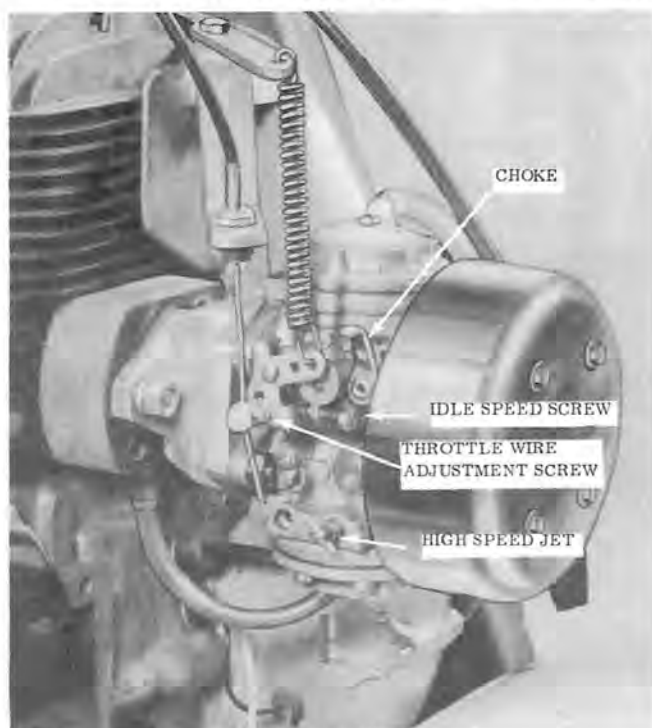
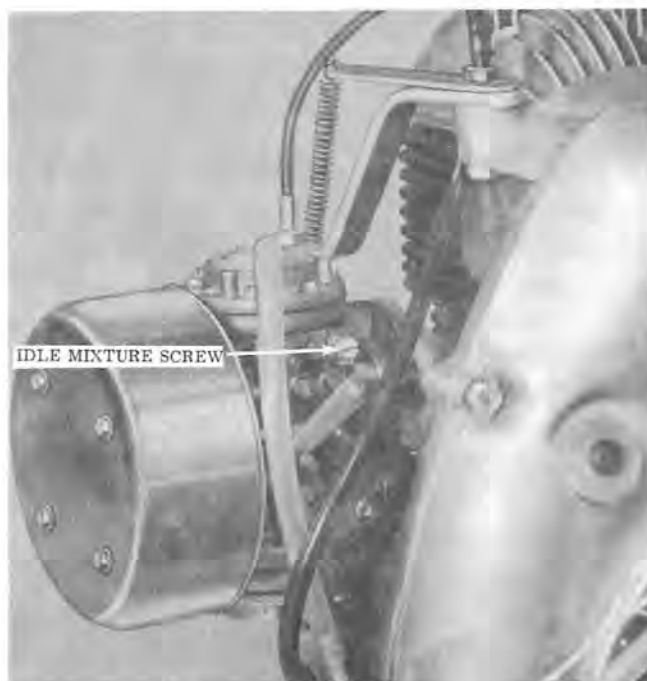

Figure 28
Figure 29
IT IS IMPORTANT NOT TO FORCE ADJUSTMENTS INTO SEATS. The dual carburetors used are Tillotson Model HL-209 and HL-210 carburetors. For best results the engine should be warm when final carburetor adjustments are made. Figure 28 shows the left side of the dual carburetors, and Figure 29 shows the right side.
2. **STARTING A WARM ENGINE** It should be started with the choke open as shown in Figure 28.
3. **TO ADJUST CARBURETOR** - Turn in the high speed jet all the way, (do not force), then open $1\frac{1}{4}$ turns as shown in Figure 28. Turn in the idle mixture screw all the way, (do not force). Open one full turn, as shown in Figure 29. This adjustment controls the mixture at idling speeds. Lean idle mixture will cause poor acceleration. Adjust the idle speed screw shown in Figure 28. Keep idle speed slower than clutch engaging speed (Approximately 1750-2000 RPM).
NOTE: Figure 28 also shows a throttle